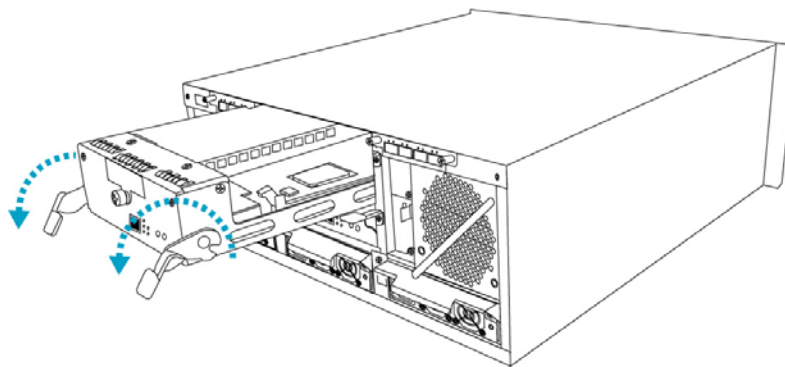

Figure 5-3: Removing the Controller Module
- Step 6. **Gently press both of the ejector levers in a downward motion** at the same time to disconnect the controller from the back-end PCB. When the ejector levers are at their lowest positions, the controller module will automatically be eased out of the controller module bay in the subsystem. (See **Figure 5-3**)